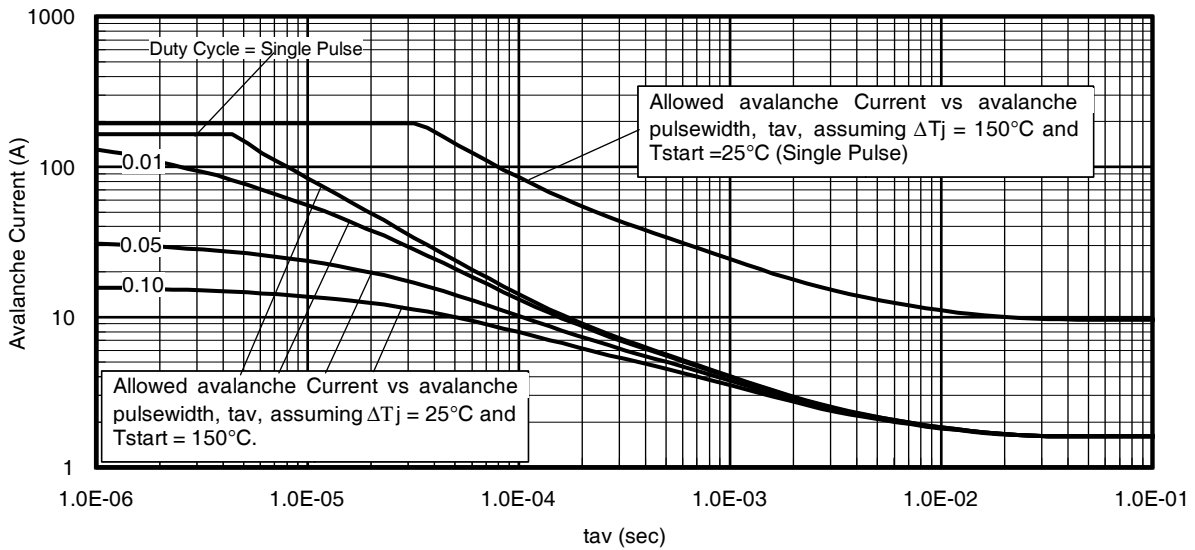

Fig 14. Typical Avalanche Current vs. Pulsewidth
- ④ $I_{SD} \leq 165A, di/dt \leq 430A/\mu s, V_{DD} \leq V_{(BR)DSS}, T_J \leq 175^\circ\text{C}$.
- ⑤ Pulse width $\leq 400\mu s$; duty cycle $\leq 2\%$.
- ⑥ $C_{oss \text{ eff. (TR)}}$ is a fixed capacitance that gives the same charging time as C_{oss} while V_{DS} is rising from 0 to 80% V_{DSS} .
- ⑦ $C_{oss \text{ eff. (ER)}}$ is a fixed capacitance that gives the same energy as C_{oss} while V_{DS} is rising from 0 to 80% V_{DSS} .
- ⑧ When mounted on 1" square PCB (FR-4 or G-10 Material). For recommended footprint and soldering techniques refer to application note # AN-994.
- ⑨ $R_{\theta j}$ is measured at T_J approximately 90°C .
- ⑩ Limited by T_{Jmax} , see Fig. 14, 15, 22a, 22b for typical repetitive avalanche performance.
- ⑪ $R_{\theta jc}$ value shown is at time zero.
Notes on Repetitive Avalanche Curves, Figures 14, 15:
7. ΔT = Allowable rise in junction temperature, not to exceed T_{jmax} (assumed as 25°C in Figure 14, 15).